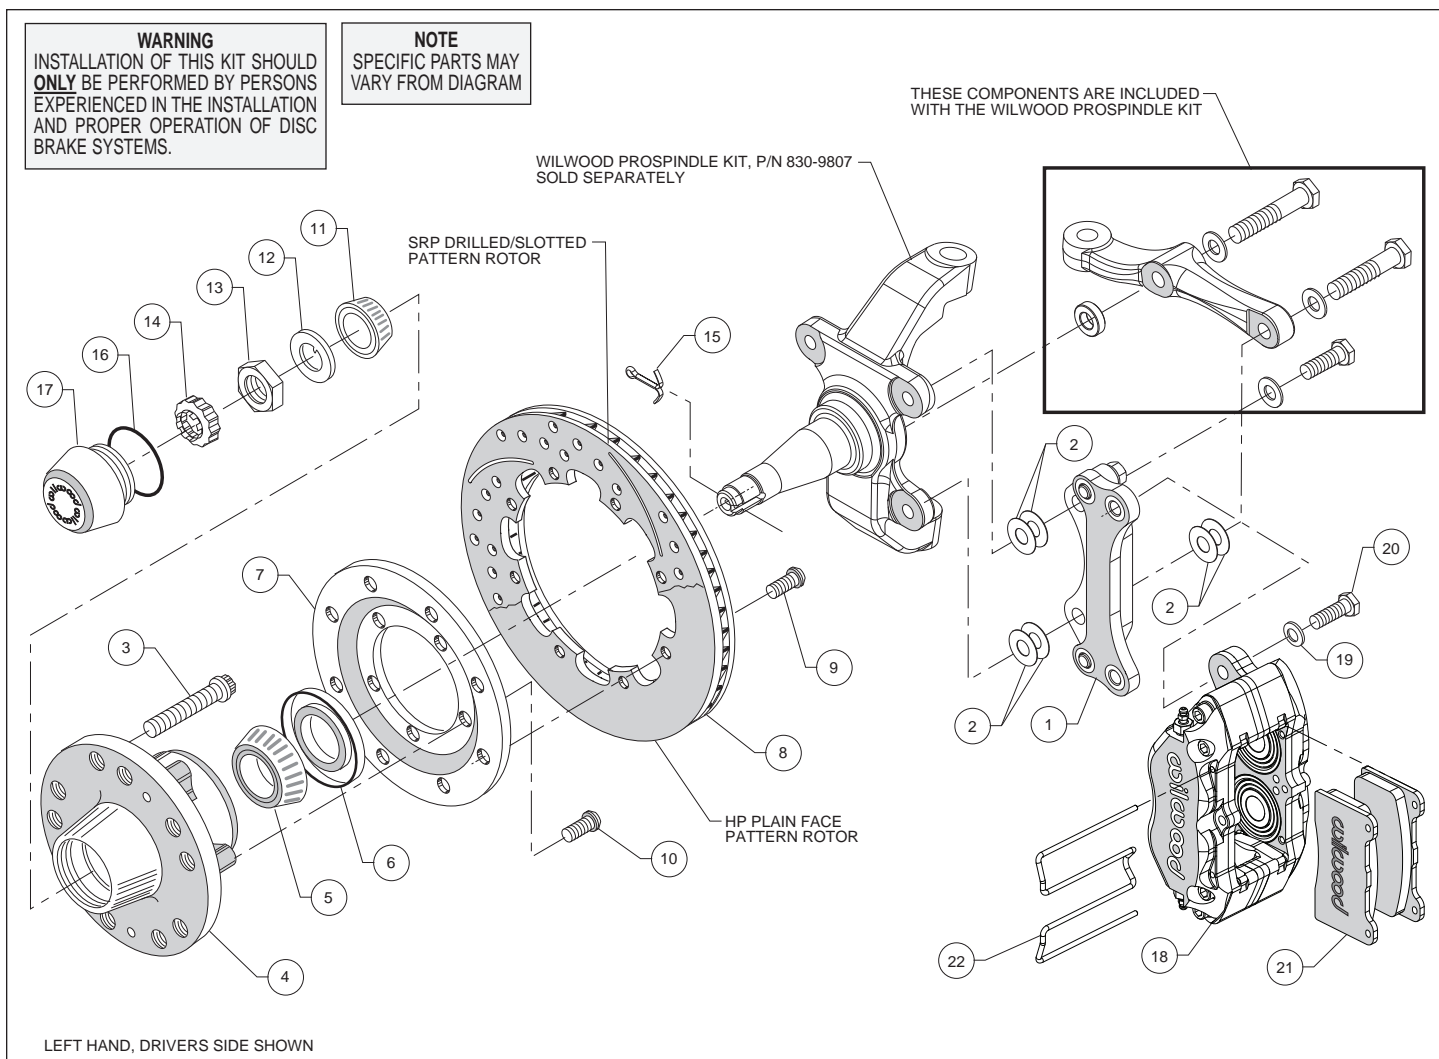
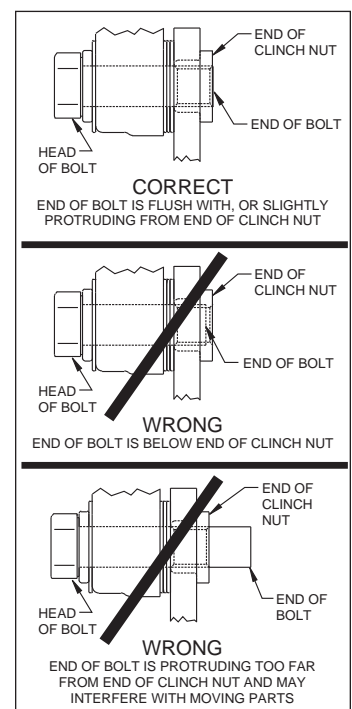

Figure 1. Typical Installation Configuration
Figure 3. Clinch Nut Engagement Diagram
**Assembly Instructions** (numbers in parenthesis refer to the parts list and Figure 1 on the preceding pages): **CAUTION:** All mounting bolts must fully engage insert nuts. Be sure to check that all bolts are either flush or protruding through flanged side of insert nut after shimming, Figure 3. **NOTE:** Rear hole refers to the part of the spindle that would be facing the back of the vehicle, front is facing the front of the vehicle.
•The caliper mounting bracket assembly (1) in conjunction with the Wilwood ProSpindle (P/N 830-9807, includes three mounting bolts, three washers, and a spacer, kit sold separately) should be installed first with clean, dry threads on the mounting bolts. Install the bracket on the inboard side of the spindle by sliding the 1.25" long bolt from the ProSpindle kit through a flat washer, also from the ProSpindle kit, through the top hole of the caliper mounting bracket and into the upper rear spindle mounting ear hole, as shown in Figure 1. Initially place two .016" thick shims (2) on top bolt between the bracket (1) and the spindle. Do not tighten at this time. Slide the 2.00" long bolt from the ProSpindle kit through a flat washer, through the rear (thinner end) hole on the steering arm, through bottom hole of mounting bracket (1), and into the lower rear spindle mounting hole. Initially place two .016" thick shims (2) on bottom bolt between the bracket and the spindle, Figure 1. The bracket is positioned between the steering arm and the spindle for the bottom bolt installation. The bracket and shim washers for the lower rear mounting must be a thickness of  $.550 \pm .010$ ". Do not tighten at this time. Finish installing the steering arm assembly by sliding the 2.25" long bolt through flat washer, then through the front (thicker end) hole of the steering arm. Place the .25" thick spacer between the steering arm and the backside of the spindle. Snug all three bolts. The bracket must tighten squarely against the inboard side of the caliper mounting bosses on the spindle body. Inspect for interference from casting irregularities, machining ridges, burrs, etc. **NOTE:** Be sure the heads of the caliper bracket (1) insert nuts are facing outward toward the wheel.
- Install wheel studs (3) into the hub (4), Photo 1. Torque to 77 ft-lb. **NOTE:** There are two lug patterns of five holes each in the hub (5 x 4.50 and 5 x 4.75). Ensure the correct hub stud pattern is being used to fit the wheel application.
- Pack the large inner bearing cone (5) with high temperature disc brake bearing grease (available from your local auto parts store) and install into the backside of the hub (4), Photo 2.
- Install the grease seal (6) by pressing into the backside of the hub (4), Photo 2.
- Orient the rotor (8) and the rotor adapter (7) as shown in Figure 1 and Photo 3. Attach the rotor to the adapter using bolts (9). Using an alternating sequence, apply red *Loctite*® 271 to the threads, and torque to 25 ft-lb.
- Mount the adapter/rotor assembly (7/8) to the hub (4) using bolts (10), as shown in Figure 1 and Photo 4. Using an alternating sequence, apply red *Loctite*® 271 to the threads, and torque to 55 ft-lb.
- NOTE:** Please reference the caution statement at the beginning of the assembly instructions. Mount the caliper (18) onto the caliper mounting bracket (1) using bolts (20) and washers (19), as shown in Figure 1. Temporarily tighten the mounting bolts and view the rotor (8) through the top opening of the caliper. The rotor should be centered in the caliper, Photo 7. If not, adjust the caliper mounting bracket (1) by using 0.016 inch thick shims (2) placed between the caliper mounting bracket and the spindle, or between the spindle and the steering arm, whichever is applicable to gain the proper caliper/rotor alignment. Always use the same amount of shims on each of the two mounting bolts. **NOTE:** The end of each bolt must be flush with or slightly protruding from the head of the clinch nut, as shown in Figure 3. If necessary place spare shims between washer (19) and caliper mounting ear to achieve the proper clinch nut engagement. Once the caliper alignment and clinch nut engagement are correct, remove the bolts one at a time, apply red Loctite® 271 to bolt threads, and torque to 40 ft-lb.
- Install the disc brake pads (21) into the caliper, with the friction material facing the rotor (8), and secure in place using the pad clip retainer (22), Photo 8.